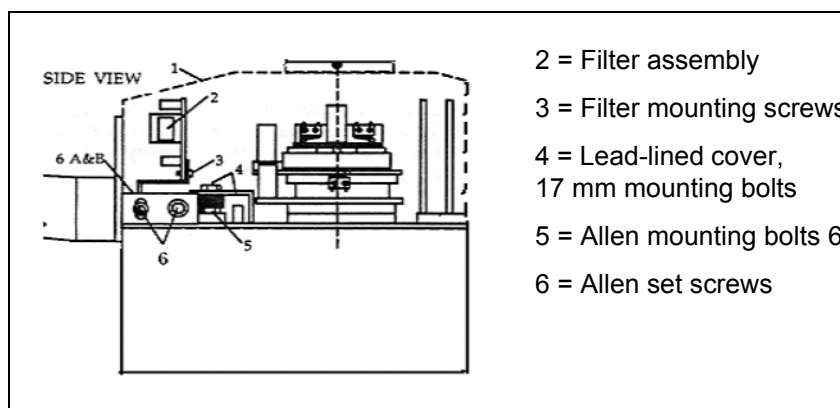

Fig. 11 Tube Head Adjustment
- Remove the filter bracket assembly (item 2, Fig. 11) by removing the two four-millimeter screws that secure it (item 3, Fig. 11).
- Remove the lead-lined cover (item 4, Fig. 11) by removing the two nuts that secure it.
- Inclination is controlled through two screws and two bolts identified in Fig. 11 and Fig. 11 as items 6, 6A, and 6B.
- Reinstall the lead-lined cover (item 4, Fig. 11).
- Reinstall the filter bracket assembly (item 2, Fig. 11).